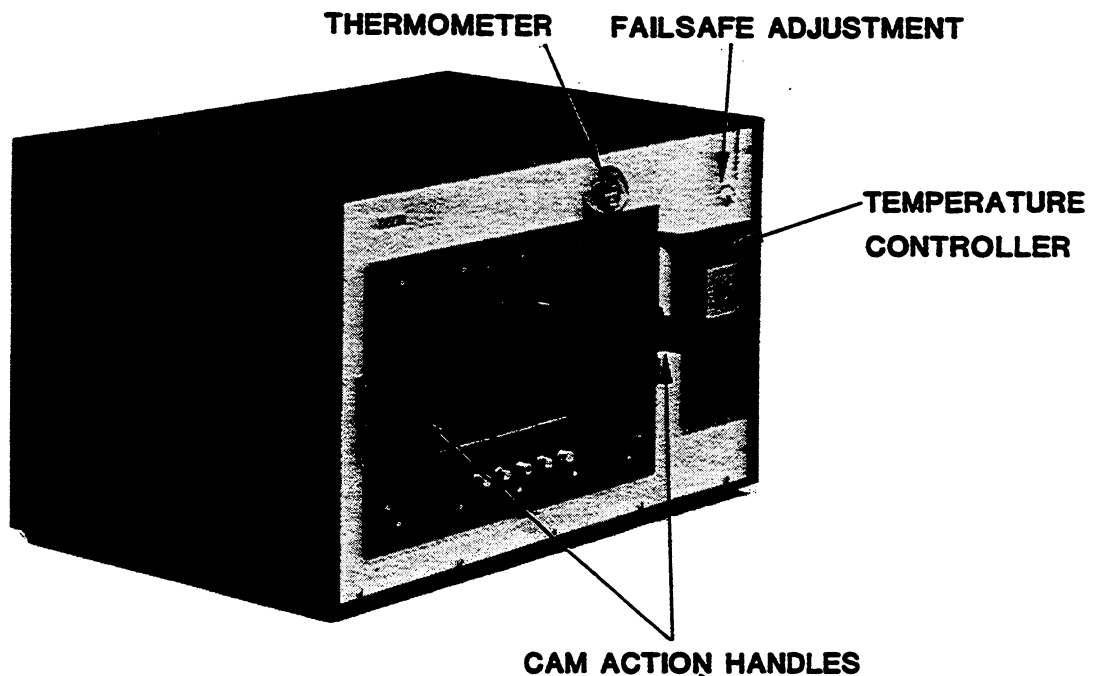

Figure 3-1. Chamber Controls and Indicators
Chamber controls and indicators are shown in Figure 3-1. Operation of the chamber is programmed using the 9010 Temperature Controller. Instructions for controller use are provided in Chapter 5 of this manual. The Model 9080 chamber has a separate manual.
3.3.1 Rotate the slotted FAILSAFE control counterclockwise to raise the trip temperature. Rotate the control clockwise to lower the trip temperature (reference Figure 3-1 for location).